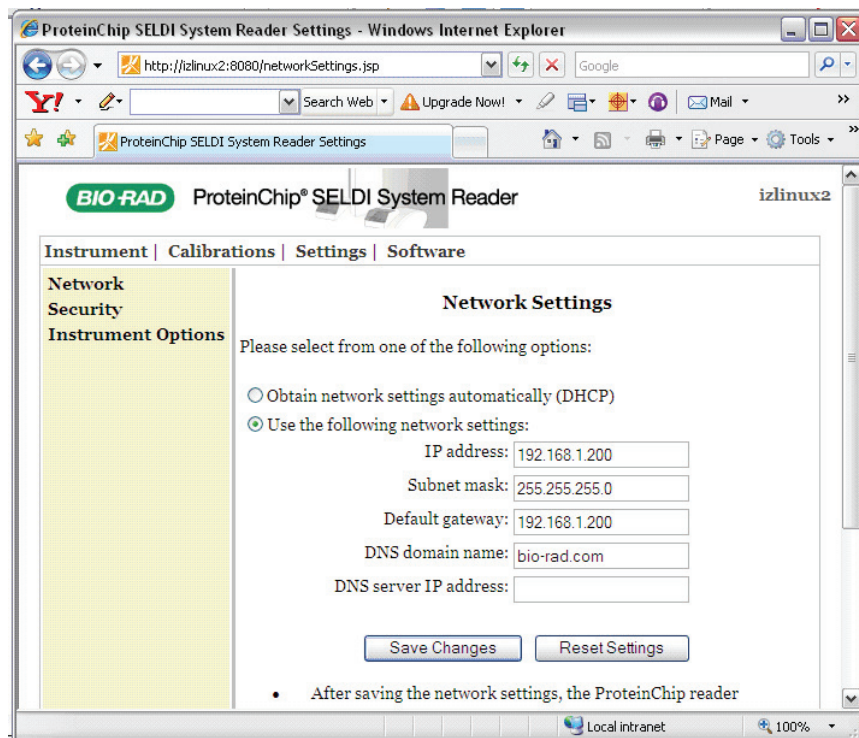

Fig. 26: The Network Settings web page.
4. Click on the **Settings** link. The **Network Settings** page will appear (Fig. 26).